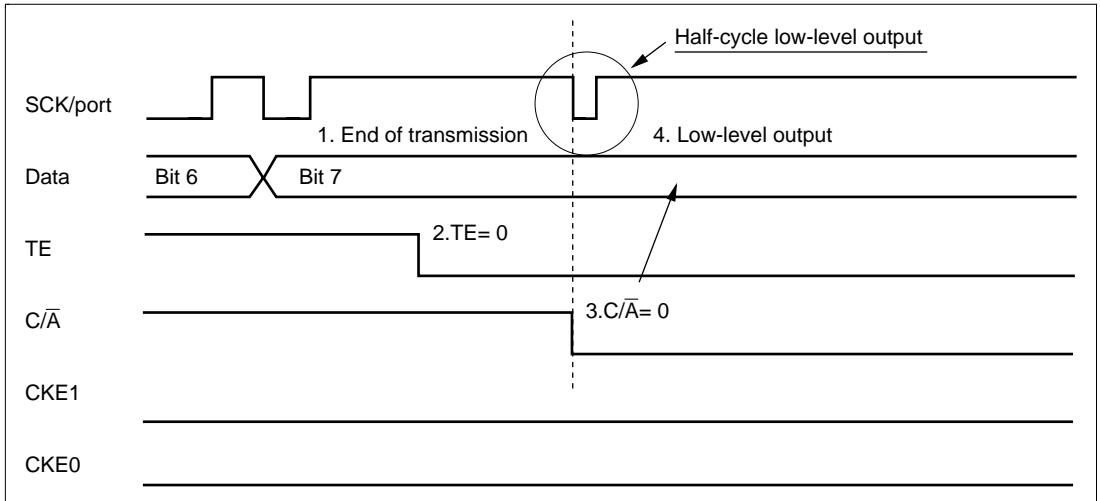

Figure 13-27 Operation when Switching from SCK Pin Function to Port Pin Function
4. Occurrence of low-level output (see figure 13-27)